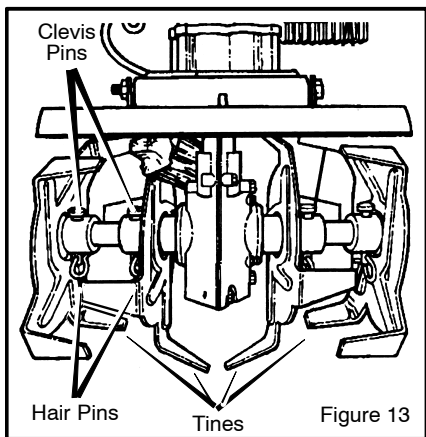

Figure 13
3. While wearing gloves, remove the **hair-pins** and **clevis pins** that secure the tine assemblies to the shaft (see Figure 13). Remove the **tines** from one side of the unit.
4. Mount the outside tine on the tine shaft and fasten with the **clevis pin** and **hairpin** (see Figure 13).